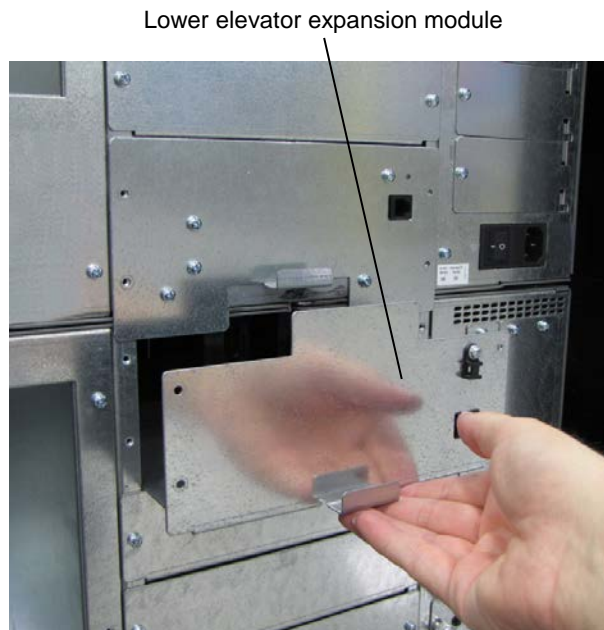

Figure 5-20 Sliding the Lower Elevator Expansion Module into the Upper Library
18. Carefully slide the lower elevator expansion module into the lower library as shown in Figure 5-20.